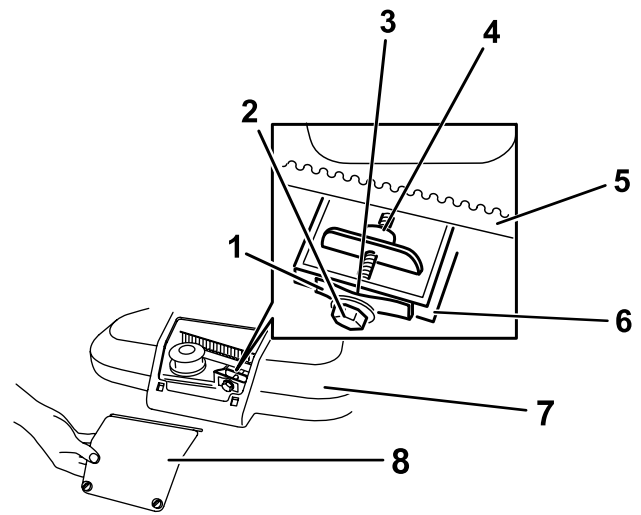

Figure 30
1. Loosen the 2 quarter-turn fasteners on the belt-cover-access panel and remove the panel (Figure 30).
Note: If there is a visible gap between the gauge and the spring, tighten the adjusting bolt and the nut until the feeler gauge barely slides freely in and out of the gap (Figure 30).